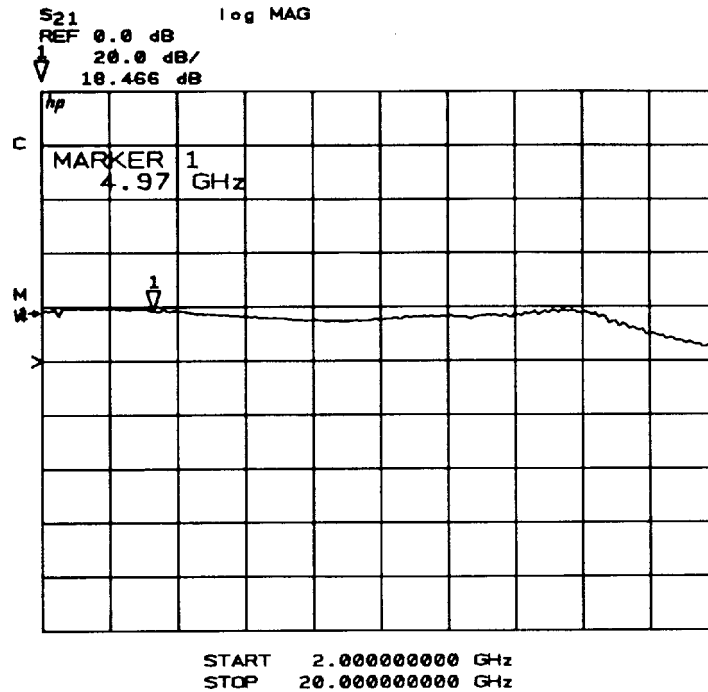

Figure 3-13. Amplifier Gain, Frequency Domain Point-in-Pulse
5. Connect the Device Under Test. Figure 3-13 shows the response of the device to the pulsed-RF stimulus over the current frequency sweep.